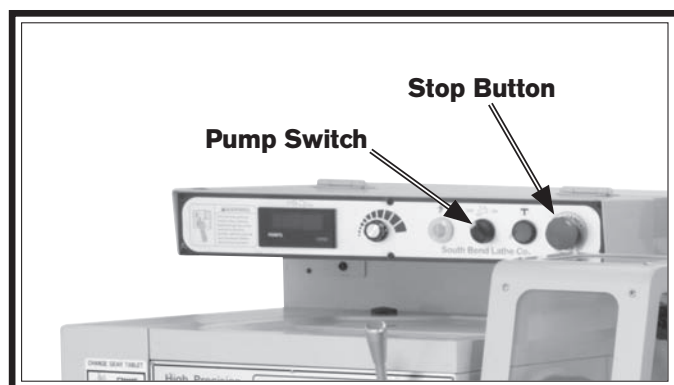
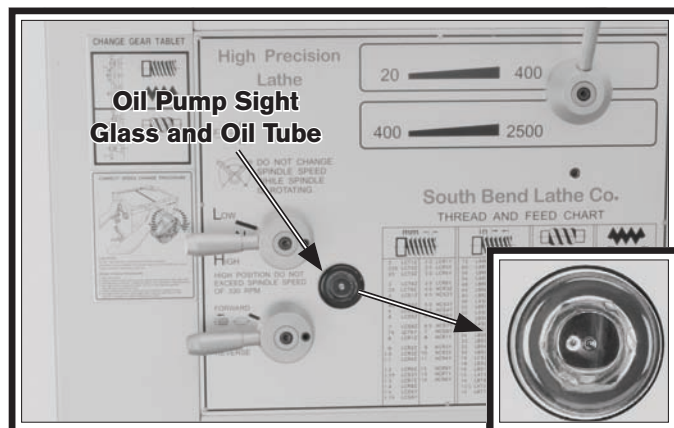

Figure 17. Control panel-test run.
Figure 24. Oil pump sight glass and oil tube.
5. Turn the pump switch (**Figure 17**) to the **OFF** position, and point the fluid nozzle into the chip drawer.
13. Rotate the stop button (**Figure 17** on **Page 18**) clockwise until it pops out. The pump will turn **ON**. Observe the oil pump sight glass (**Figure 24**). Verify that you see oil flowing out of the tube and against the sight glass.